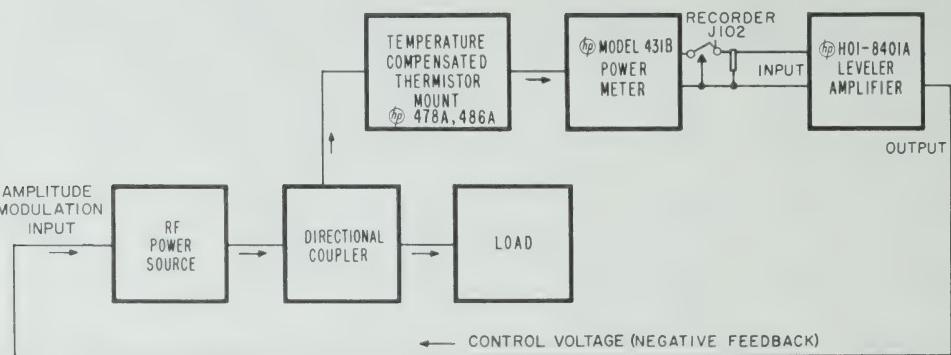

Figure 3-6. Leveler Setup
**3-28. LEVELER.** Figure 3-6 is a block diagram of a closed-loop control circuit for maintaining output power at a constant level. It is recommended for use in leveling the output of various types of  $\oplus$  microwave equipment such as two sweep oscillators, twt microwave amplifiers, and rf generators. In addition to the